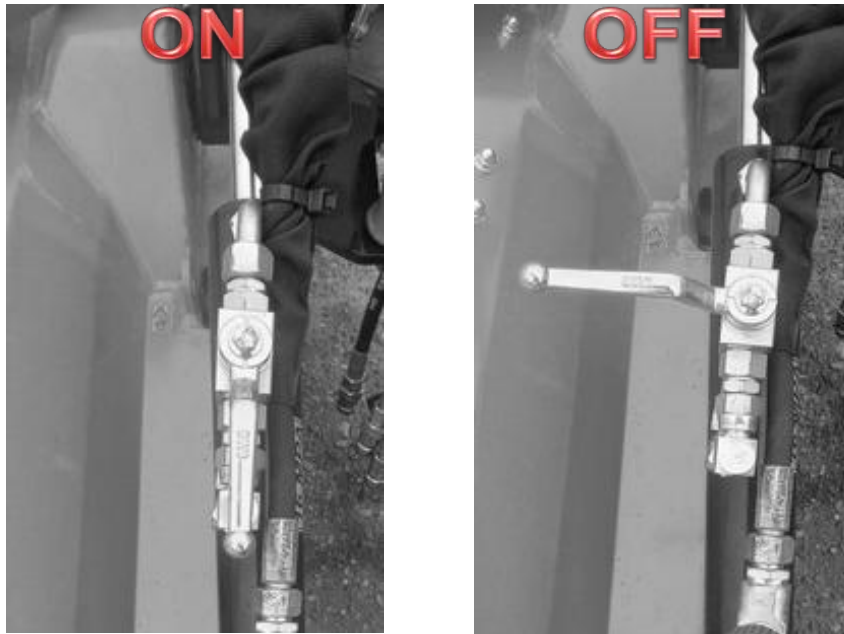

Figure 10. Position of ball valve during operation and transport
- If the mower has been fitted with a ball valve on the cylinder, it is important to ensure that it is correctly adjusted during transport and operation. During transport, the valve must always be in the closed (OFF) position and during operation in the open (ON) position, as shown in Figure 10.